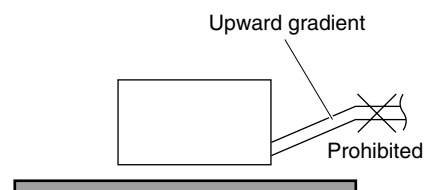

Fig. 3-197
- Do not install the pipe with an upward gradient from the connection port. This will cause the drain water to flow backward and leak when the unit is not operating. (Fig. 3-197)